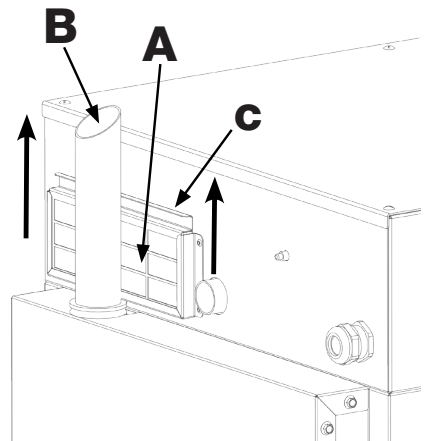

Fig. 10
The filter is located on the rear of the oven (**Ref.A - Fig.10**).
1. Grasp the filter tab (**Ref.C-Fig.10**) and lift it so that the filter slides upwards out of its housing.
The humidity discharge (**Ref.B Fig.10**) expels the steam that forms inside the cooking chamber.